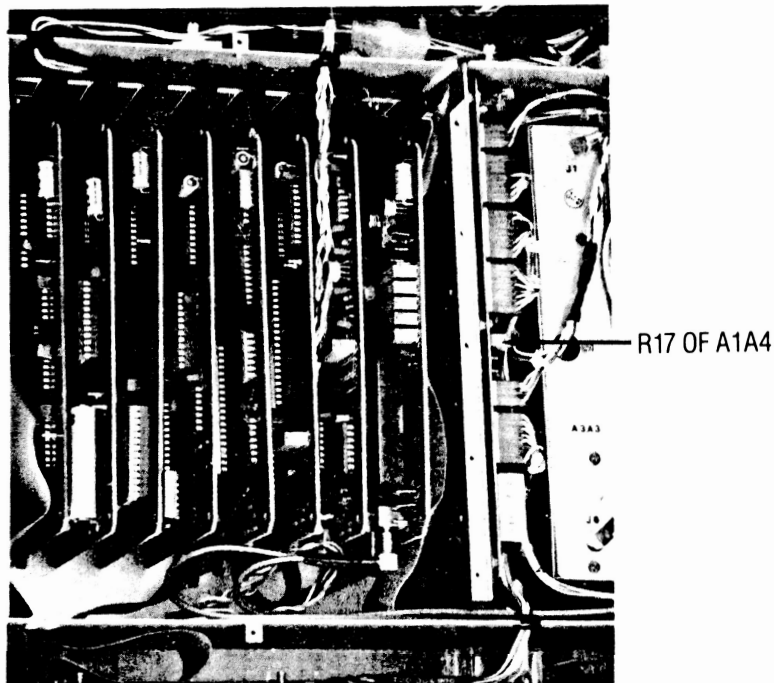

Figure 3-5. LOCATION OF R17 OF A1A4
6. If necessary, adjust R17 on the A1A4 board to set the voltage to the +28 volts, $\pm .005$ volts. Refer to Figure 3-5.